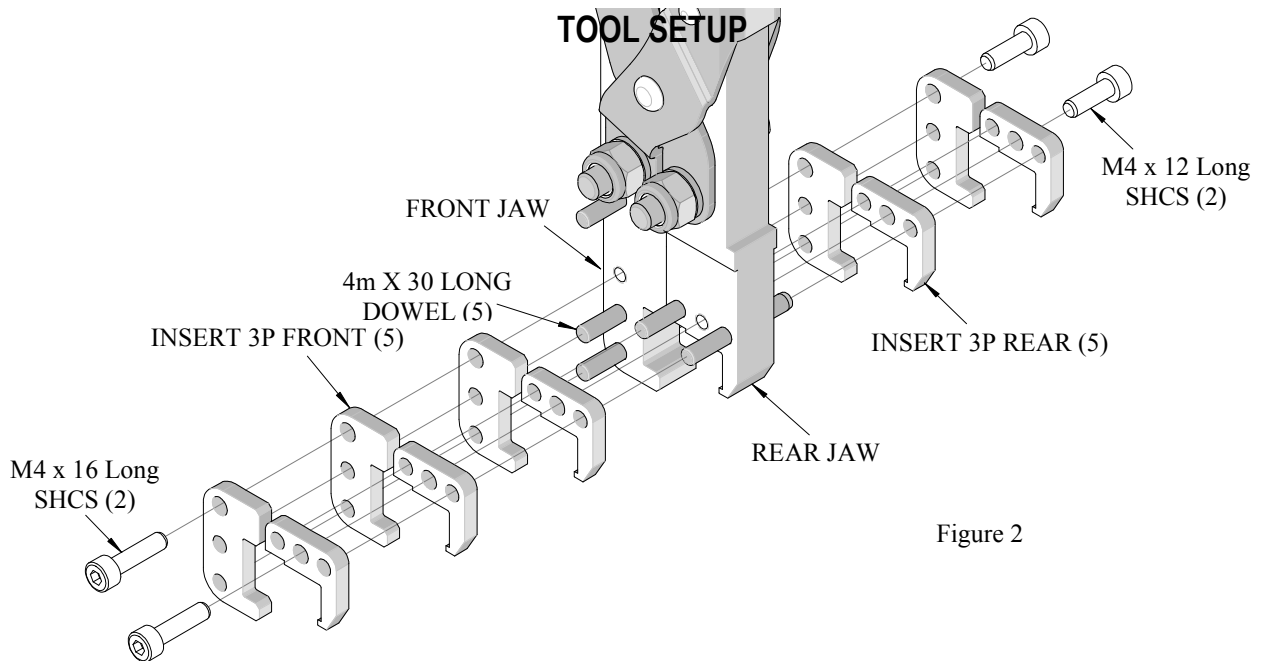

Figure 2
1. To remove the tool insets from the jaw, remove the (4) M4 SHCS on the removal tool and pull out inserts from the dowels. See Figure 2.